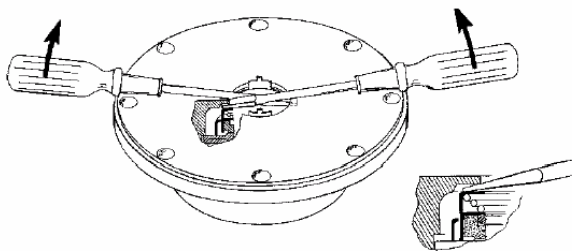

Figure 6
3. Remove the inboard bearing cover capscrews (28) and slide the inboard bearing cover (27A) and gasket (26) off the shaft. Discard the bearing cover gasket.
4. Remove the outboard bearing cover capscrews (28) and slide the outboard bearing cover (27A) and gasket (26) off the shaft. Discard the bearing cover gasket.
6. Remove the head capscrews (21) and carefully pry the head (20) away from the cylinder. Jack screw holes are provided if needed.
7. Slide the head off the shaft. The head O-ring (72), bearing (24), and mechanical seal (153) will come off with the head assembly. Remove and discard the head O-ring.
- a. Pull the bearing (24) from the housing in the head.
- b. To remove the **mechanical seal** (153), use two screw drivers to gently push the backside of the seal jacket to push the seal from the head (see Figure 6). Use care when placing the screwdrivers to prevent damage to the seal faces. Remove and discard mechanical seal O-rings.